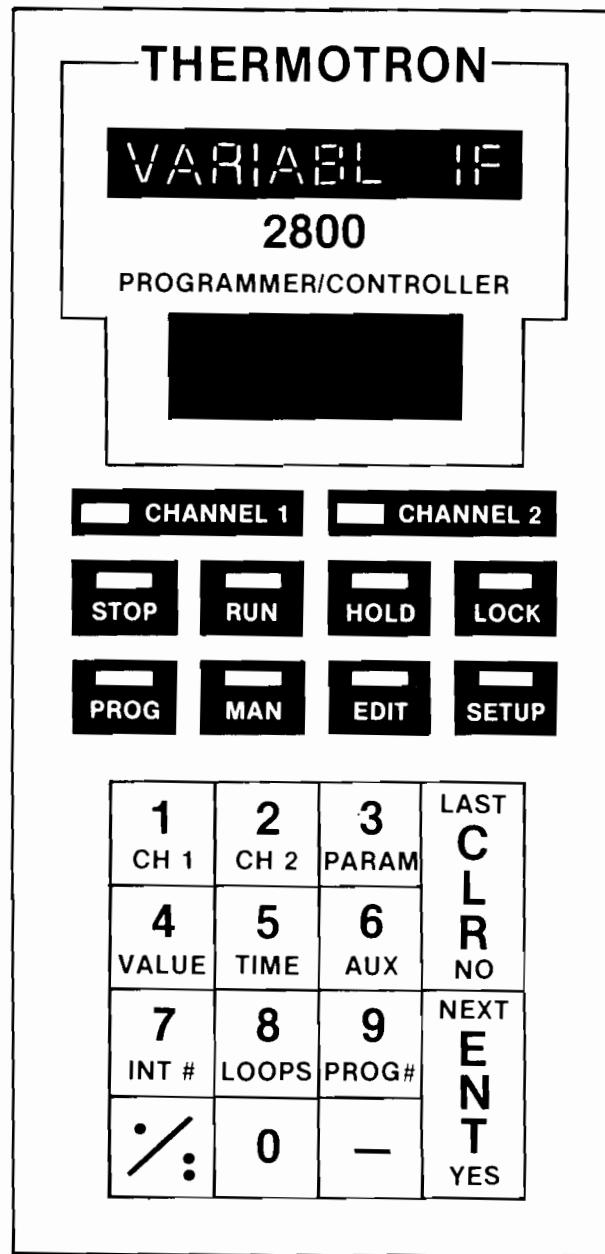

FIGURE 8
**Example:** VARIABL 1 F means the channel 1 variable is in degrees Fahrenheit. See Figure 8 on Page 15.
VARIABL - The current value of the process variable for the selected channel, either temperature or relative humidity, is displayed. See Figure 8.